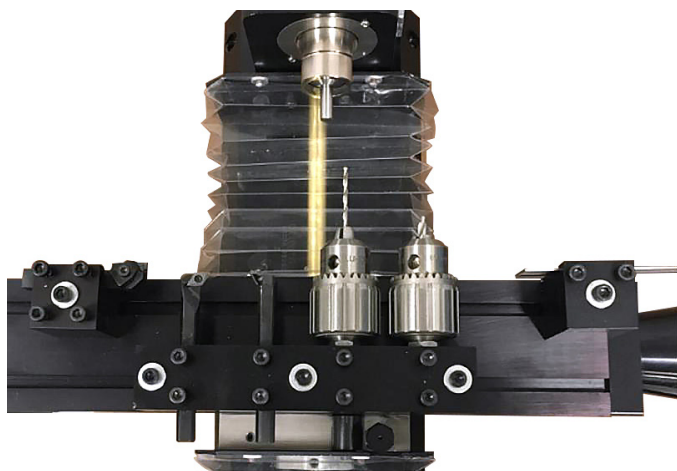

FIGURE 3
3. If you mount our rear cutoff tool post (P/N 3018) on the stepper motor side of the table (see Figure 3), you can use the cutoff holder as a programmable stop for your material. You can finish your program with a part-off cycle. Then you are already in position to start your next part.